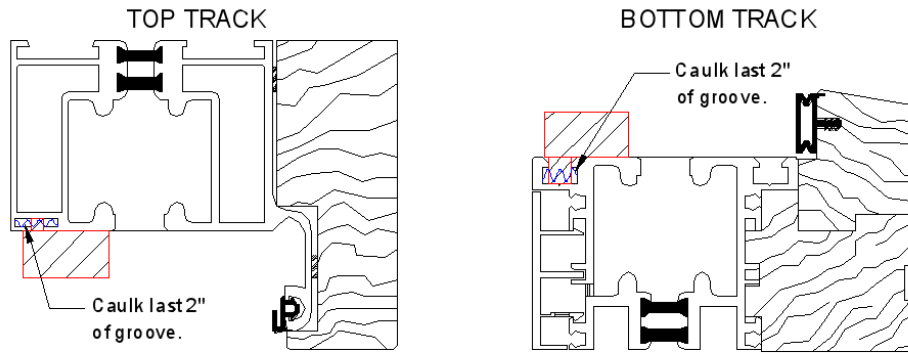

FIG 3.
- b) Caulk ends of both jambs as shown in Fig's 1 thru 3 depicted by squiggly (FIG 3 on next page). Pre screw in 2 (#10 x 4" FH screw) into top and bottom pre-drilled holes on both jambs for ease of installation.
- Caulk the last 2" of the outside groove of both top and bottom tracks before inserting jambs, as shown in FIG 3.
- Each jamb has a jamb insert top and bottom; the thicker Insert is at the bottom of the jamb and will be inserted into the outside groove of the bottom track. The thinner jamb insert is at the top of the jamb and will insert into the outside groove of the top track. (See FIG. 3)